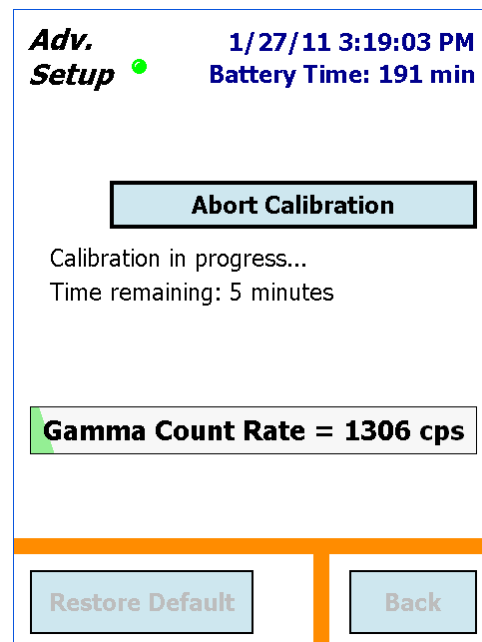

Figure 54. Auto-Calibration in Progress.
- During auto-calibration, the screen displays the time remaining to completion of the calibration, as shown in Fig. 54. This number is the real time for the calibration spectrum acquisition and is based on the peak count rate. *Auto-calibration will not succeed until the calibration peak passes the quality test.*